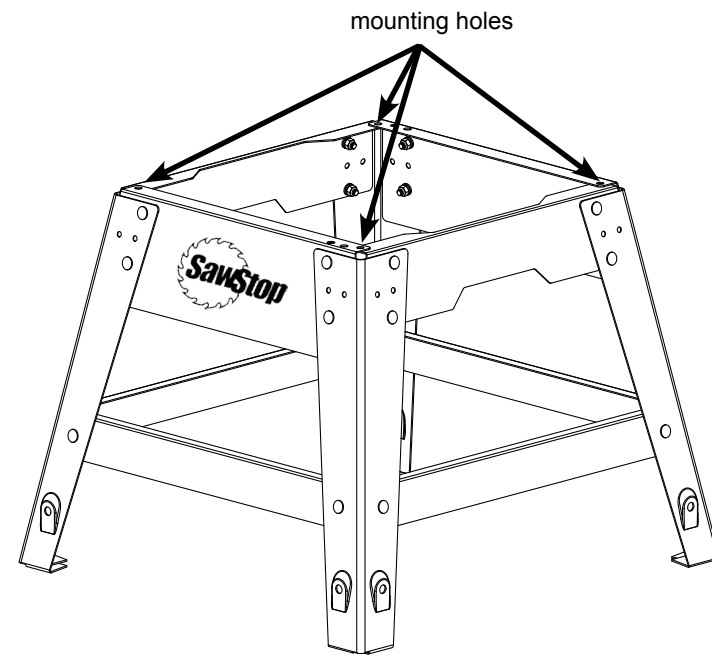

Fig. 8
- The front, rear and side panels have flanges that overlap to define mounting holes through which you will bolt the saw to the stand. There is one hole in each corner of the stand (see Fig. 8). Adjust the panels until the holes align and then tighten all of the nuts in the stand using a 13 mm wrench.